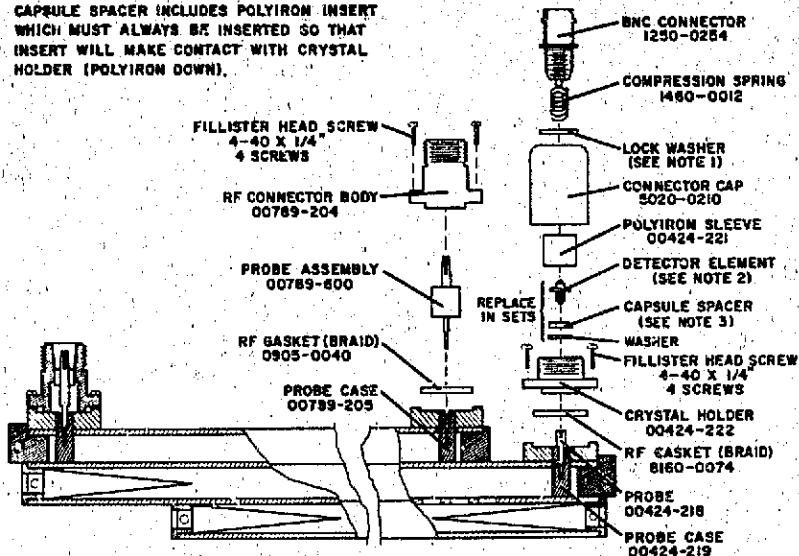
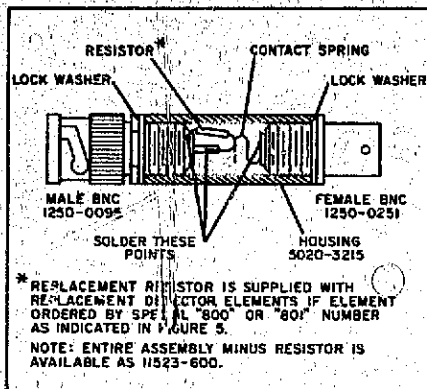

Figure 5. 789C Connector Assembly
Figure 7. Option 002 Load, Cutaway View
Succeeding paragraphs give instructions for repair of the 789C and the HP Model 11523A (Option 002) Load Resistor. Figures 5 and 6 illustrate the replaceable parts assembly for the directional detector. Figures 7 and 8 illustrate the replaceable parts assembly for the load resistor. Stock numbers required when ordering replacement parts are given in the respective assembly illustrations. To order a replacement part, address order or inquiry to your Hewlett-Packard field office.
The detector element (see Figure 5) can be damaged electrically by dropping or incorrect handling procedure. Read the following handling precautions before doing anything which involves detector-element handling.
- a. Note Figure 5 and remove connector cap from holder. To remove connector cap, use a pair of gas pliers and protect cap with heavy paper or tape.
- a. Refer to Figure 5. Remove BNC connector and lockwasher.
- a. Remove four retaining screws and RF Connector Body only. Do not remove probe assembly or rotate probe position (see Figure 5).
- Refer to Figure 5. Remove four retaining screws and the RF Connector body.
- Refer to Figure 7. Unscrew male BNC and lock-washer from housing by using a 3/8-inch open-end wrench and holding housing either in a vise or with gas pliers.